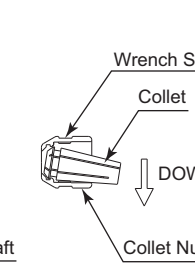
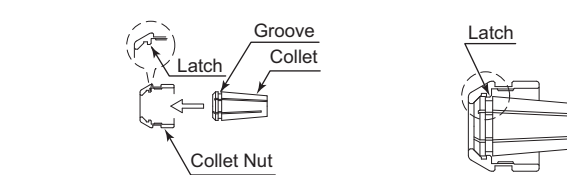
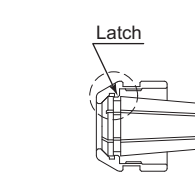

Fig. 10
Fig. 11
Fig. 12
- The collet and collet nut are secured by a groove in the collet and a flange in the collet nut. To remove the collet hold the collet nut in one hand and push diagonally down on the collet. The collet should be released (Fig. 10).
- To install the collet, hold the collet at a slight angle, and insert it into the collet nut (Fig. 11). Press the collet in the collet nut by positioning the collet in the collet nut and pressing down on flat surface (Fig. 10). Be sure to fully engage the latch inside the collet nut into the groove on the collets outer circumference area (Fig. 12).